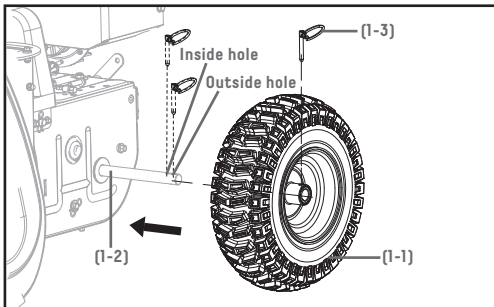
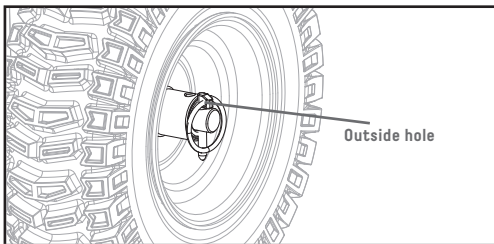
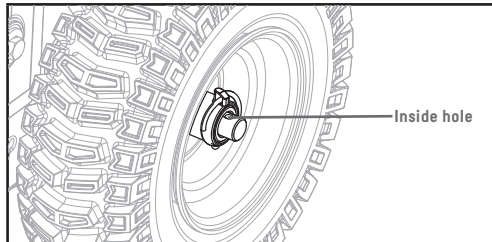
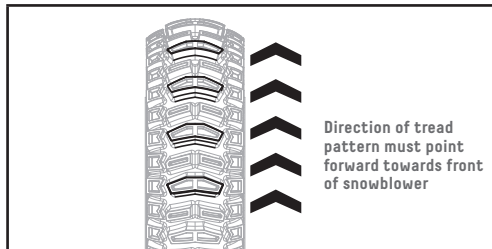

Figure 1A
Figure 1B
Figure 1C
Figure 1D
1. Slide the left wheel (1-1) onto axle (1-2) as the arrow shows (Fig. 1A). Tread pattern should face forward (Fig. 1D). Place axle pin (1-3) into wheel. The axle has a centre hole to attach the wheel to the axle (which connects to the drive train). Once inserted, fold ring around axle to hold in place.
2. Repeat on right side. Tread pattern should face forward (Fig. 1D).
Only the left axle has two holes (Fig. 1A), and the axle pin can be removed and repositioned. If the wheel is slid further in on the axle with the pin inserted into the outside hole of the axle, the machine will move freely without the engine on (Fig. 1B). If the pin is inserted into the inside hole of the axle, the machine will only move when the drive control is engaged when the engine is on (Fig. 1C).